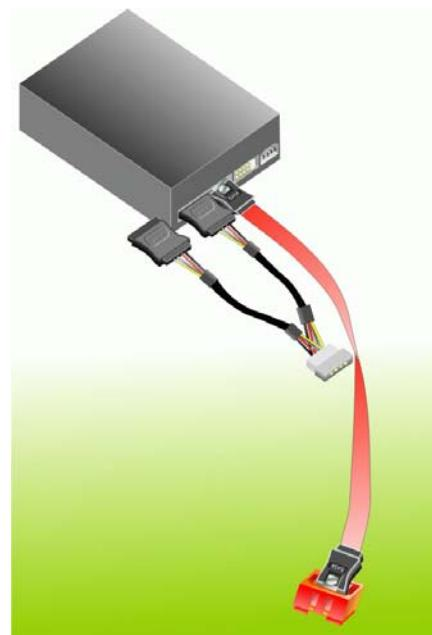

Figure 5-18: SATA Power Drive Connection
Step 3: Connect the cable to the SATA disk. Connect the connector on the other end of the cable to the connector at the back of the SATA drive. See **Figure 5-18**.
Step 4: Connect the SATA power cable. Connect the SATA power connector to the back of the SATA drive. See **Figure 5-18**.